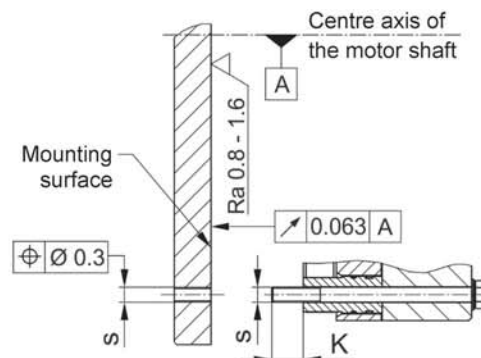

Fig. 5
- The mounting dimensions and the tapped holes s with depth K + 2 mm (K = screw projection) must be provided according to the Catalogue or the applicable assembly drawing (Fig. 5).